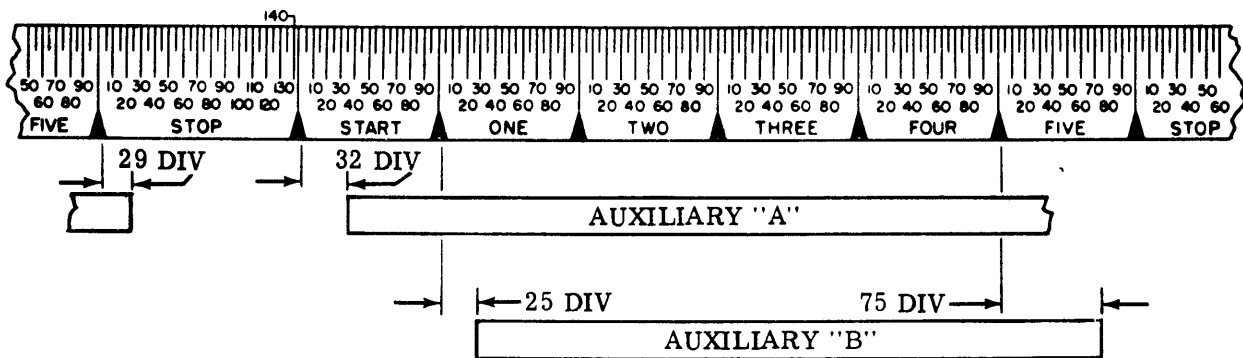

Figure 5 - Distributor Auxiliary "A" and "B" Contacts
3.11 Distributor Auxiliary Contacts "A" and "B" (Figure 5):